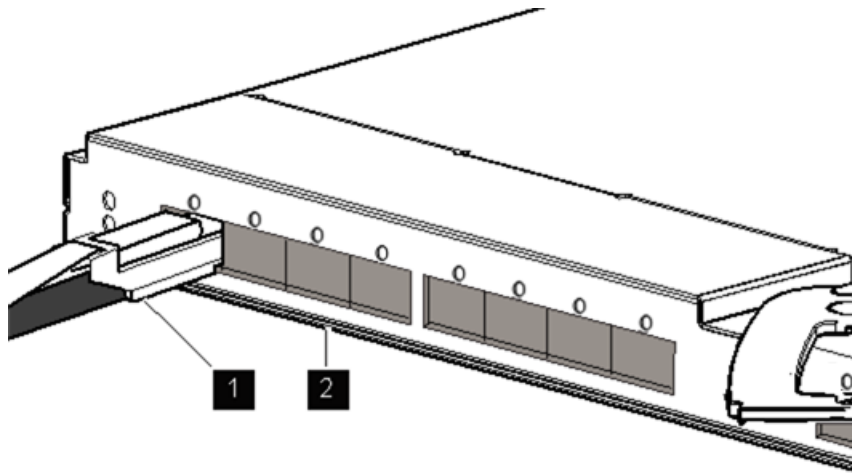

Figure 9 InfiniBand Cable Installed in Port 1 of an HP BLc Intel® 4X QDR InfiniBand Managed Switch
2. Insert the QSFP connector into the HP BLc Intel® 4X QDR InfiniBand Managed Switch port (see callout 1 in Figure 9) until it is fully engaged and locked.